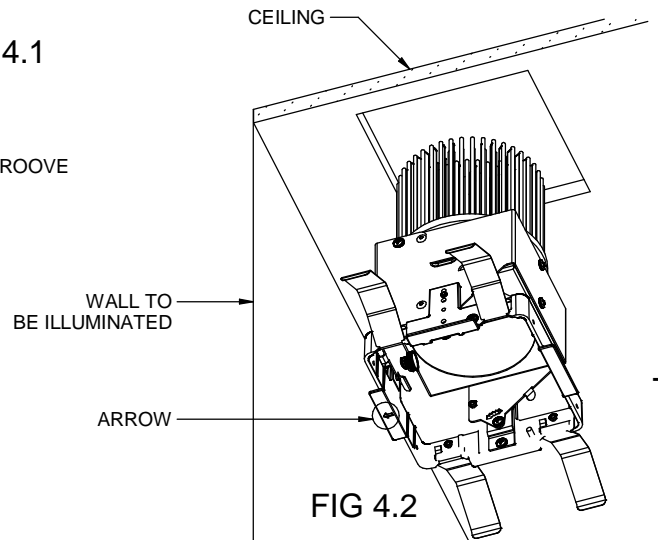

FIG 4.2
2. Use the arrow mark on the casting flange to determine the orientation and ensure the arrow mark points toward the wall to be illuminated. **FIG 4.2.**